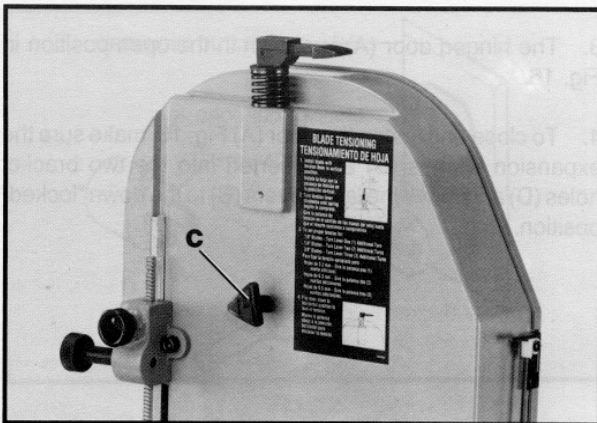

Fig. 20
4. If an adjustment is necessary, **SLIGHTLY** turn blade tracking knob (C) Fig. 20, clockwise to move the blade to the rear and counterclockwise to move the blade to the front. **NOTE:** Very little movement of the blade tracking adjusting knob (C) is necessary.